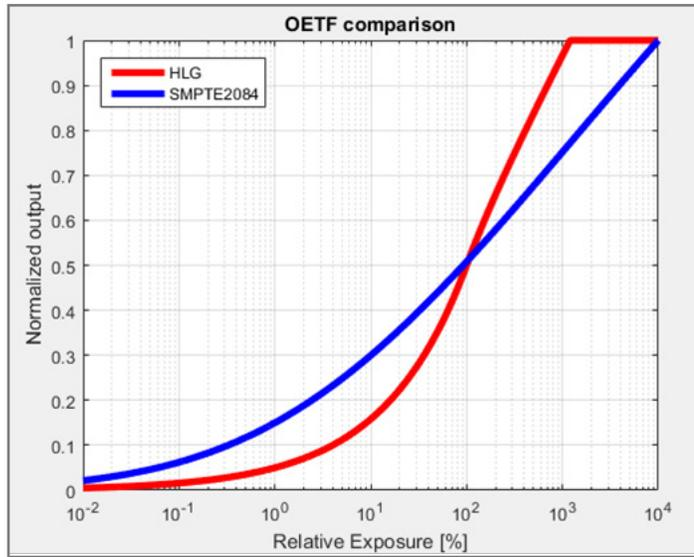

Figure 1 – OETF comparison HLG and SMPTE ST 2084 / PQ.
There they specify the HDR-TV image parameters for use in production and international program exchange using the Perceptual Quantization (PQ) (as specified under SMPTE ST 2084) and Hybrid Log-Gamma (HLG) methods (See Figure 1).